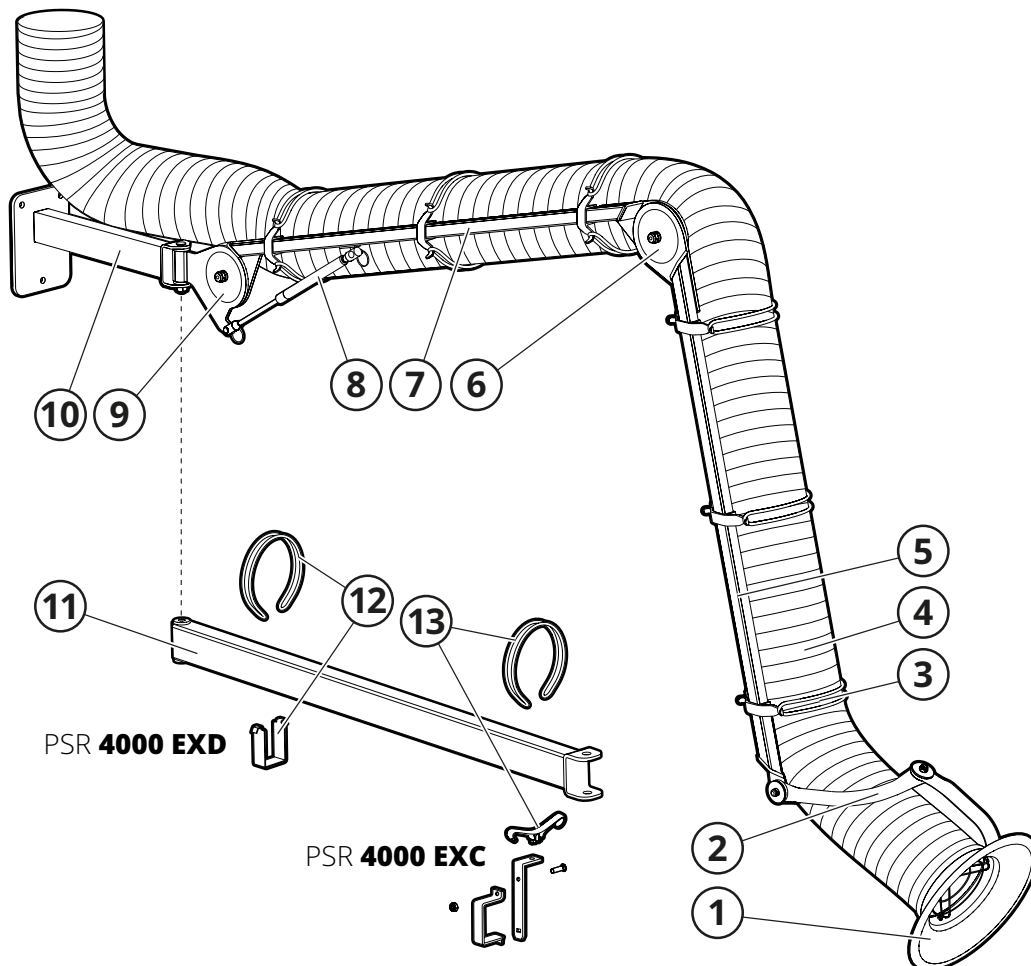

Fig. 2
See Fig. 2.
The extraction arm is mounted on a wall bracket (10, Fig. 2) as standard and has externally attached support arms (5, 7). The upper joint (9) is fitted with a gas spring (8) to balance the weight of the arm. The extraction arm's friction is regulated at each joint (6, 9). The hood (1) is designed for maximum suction efficiency and is ideal for gas and dust extraction. The hood joint (2) can be bent 180°+180°. The hose (4) is mounted on the arm via a Fumex Q-Maid™ hose fixation (3).